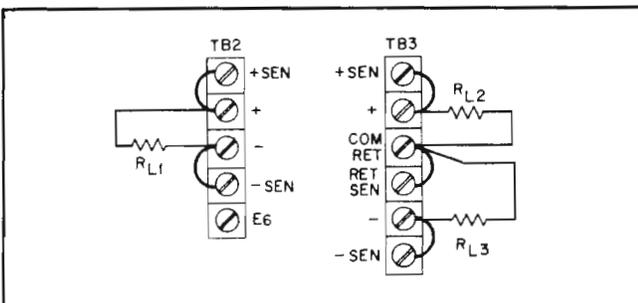

Figure 3-1. Load Connections, Local Sensing
- b. Connect all remote sensing terminals to the corresponding output terminals as shown in Figure 3-1.
3-8 Figure 3-1 shows the strapping arrangement for connecting loads to the supply using local voltage sensing and supplying two separate loads from the ± 11.4 to ± 15.75 V outputs. The positive (master) supply powers R_{L2} and the negative (slave) supply powers R_{L3} . As the VOLT ADJ control for the dual outputs is adjusted, the slave supply's output tracks that of the master within $\pm 2\%$. Either terminal of the 5V output and any one terminal of the dual output may be grounded, if desired, either at the supply's ground ($\frac{1}{2}$) terminal or at the load. (See paragraph 3-12.)